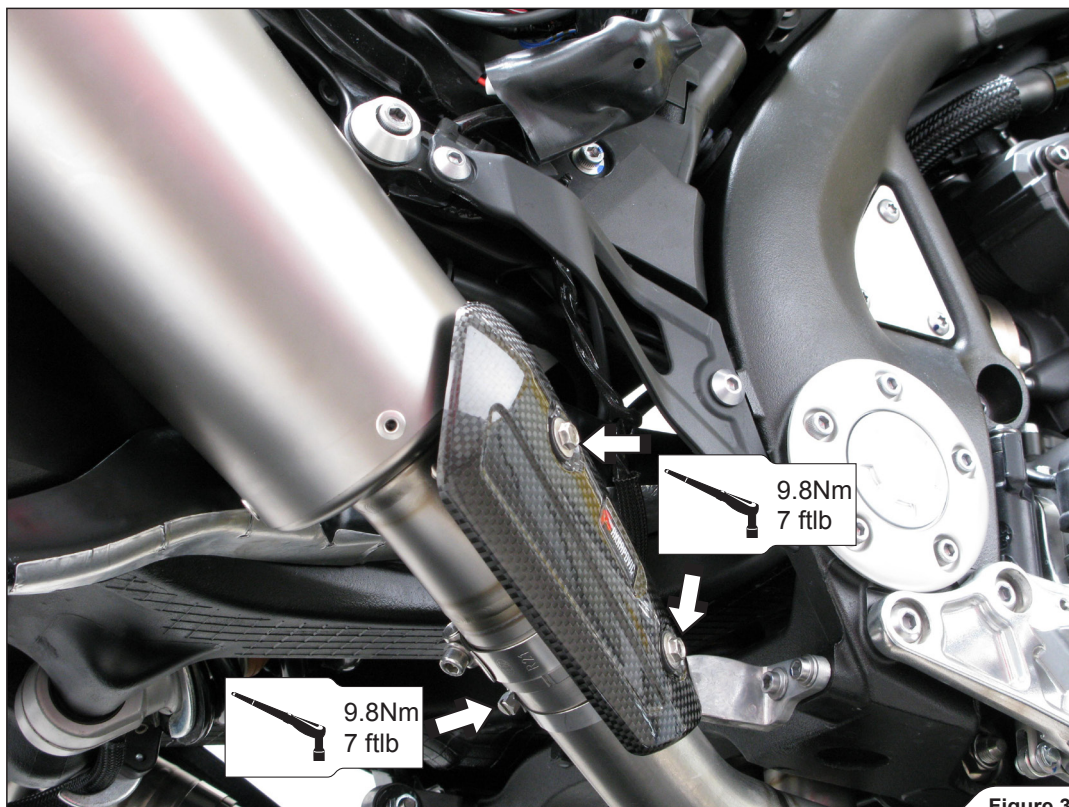

Figure 37
12. For BOTH SLIP - ON sistem: tighten the heat shield metal clamp and the heat shield's bolts (Figure 37). Perform the process on both sides of the motorcycle.